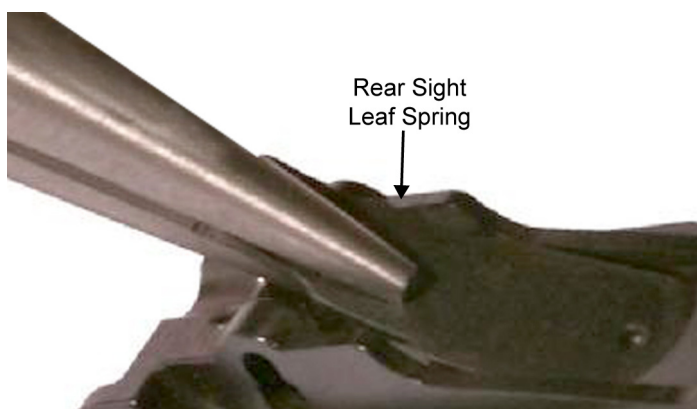

Figure 26. Installing the Rear Sight Leaf Spring.
9. Use needle-nosed pliers to install the leaf spring into the rear sight base, ensuring that the dimple on the leaf spring corresponds to the hole in the rear sight base and that the wide, rear end is fully seated in the cut out in the top of the rear sight base. Refer to Figure 26.